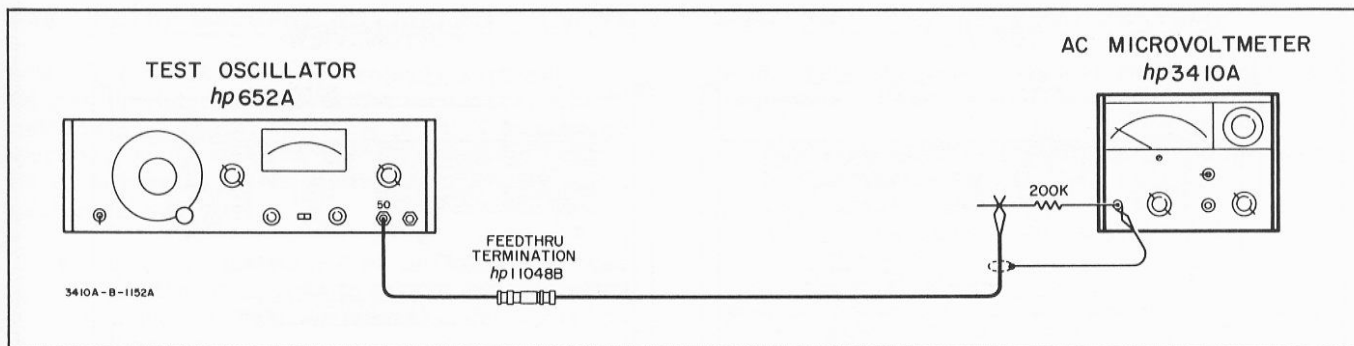

Figure 5-3. Input Impedance Check
d. Connect a 200 k $\Omega$  resistor between the test oscillator and the 3410A as shown in Figure 5-3.
a. Connect the test oscillator (terminated in 50 $\Omega$ ) and a 200 k $\Omega$  resistor to 3410A as shown in Figure 5-3. Insert the resistor lead directly into the BNC connector on the 3410A, and connect the ground lead to the outer shield of the connector. Do not use an adapter, as it would add input capacitance. The 50 $\Omega$  termination should be as close as possible to the 200 k $\Omega$  resistor.